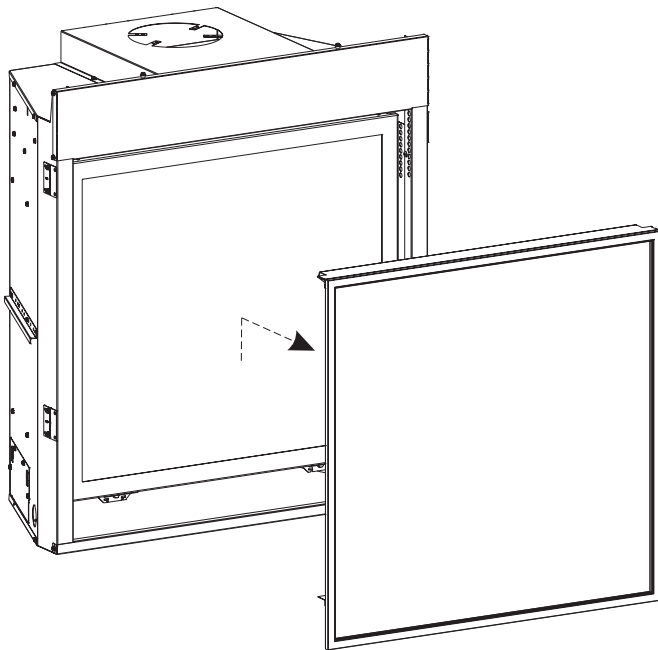

Figure 4
- 1a. **(Post 2016)** Make sure power and gas are turned off prior to any removal. Lift barrier screen assembly and pull away from the unit. **See Figure 4.**